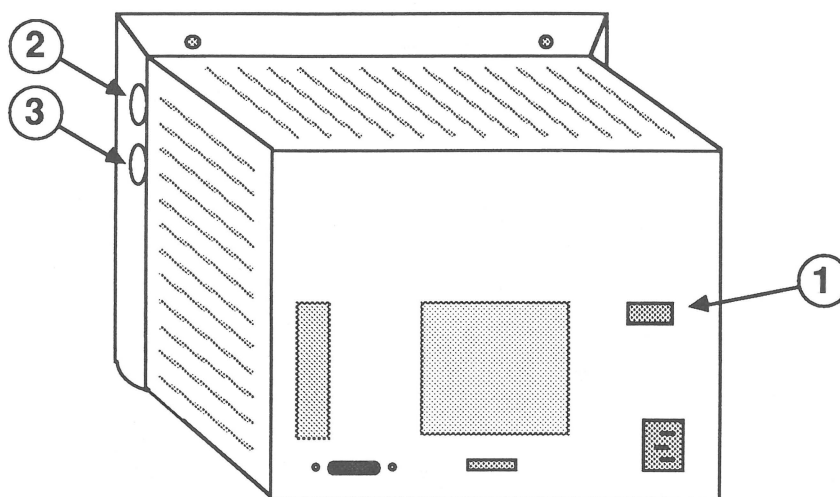

FIGURE 1
- IPL.3 Internal Assembly (Figure 1)
The power switch (Figure 1, #1), contrast control (Figure 1, #2), and brightness control (Figure 1, #3) are the only controls recommended for user access. The LED on the lower-front case indicates when the power is on.